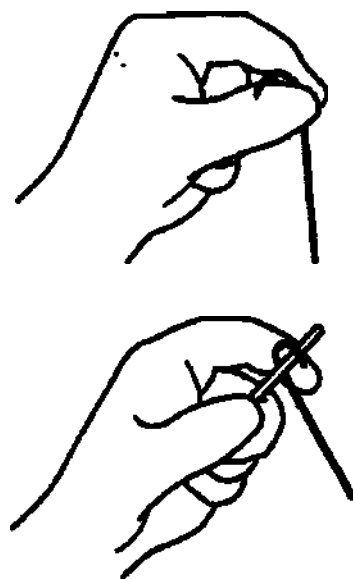

Рис. 9 Схема придания кончику желаемой формы с помощью инструмента для введения/ Fig. 9 Scheme of giving the tip the desired shape using the Insertion tool
- 3) If tip shaping is desired, gently bend the distal tip using fingers or by winding the tip round the Insertion tool as shown (Figure 9) until the desired shape is achieved.